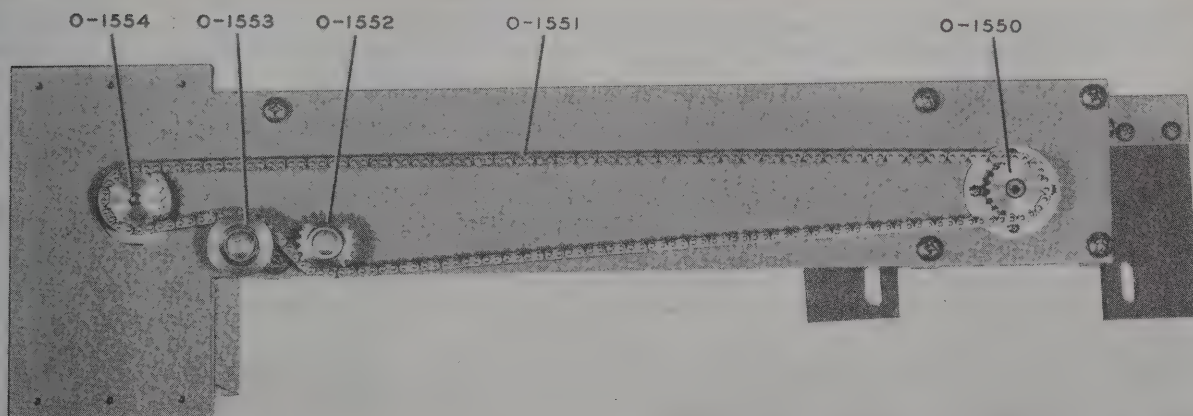

*Figure 22. Installing PA Tubes on Platform.*
- (b) Place three 3X2500A3 tubes on each platform (refer to fig. 22 for correct position of tube). When tubes are in place, snap the tube hold-down clamps on each tube into position.